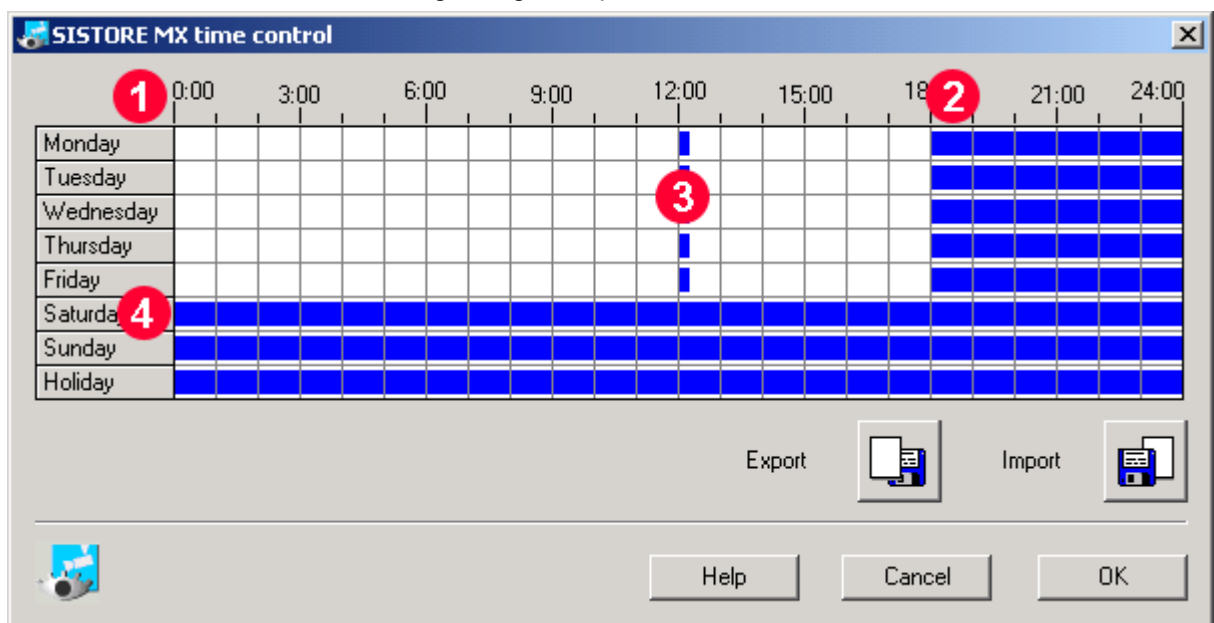

Fig. 95 Click points in the "SISTORE MX time control" dialog
5. Configure the time table. See also Fig. 95 and the following table: